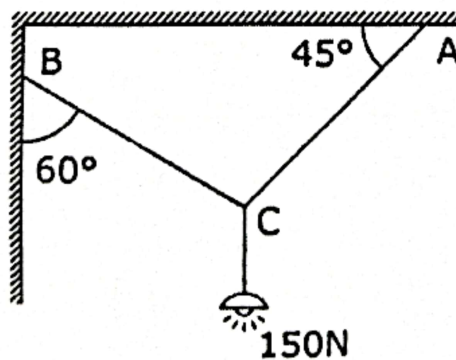

Fig. 12(a)
12. A. An electric light fixture weighing 150 N hangs from a point C, by two strings AC and BC as shown in fig.12(a). Determine the forces in the string AC and BC. (6)